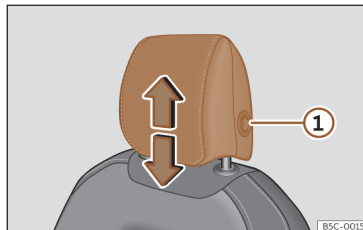
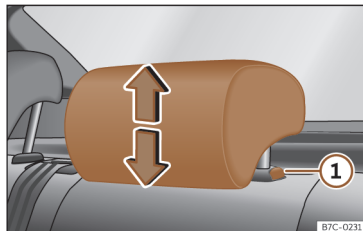

Fig. 98 Front seat: adjusting the head restraint.
Fig. 99 Rear headrest: adjusting the headrest.
- Grab the sides of the head restraints with both hands and push upwards to the desired position. To lower it, repeat the same action, pressing the button on the side ① >>> Fig. 98, >>> Fig. 99.